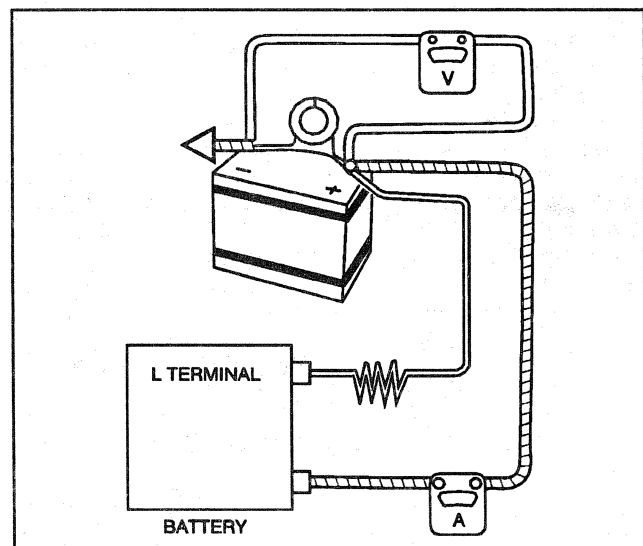

Figure 3—Connections for Generator Output Test
1. Install and connect the generator to the test stand as shown in Figure 3. The ground polarity of the generator and the battery must be the same. The carbon pile must be turned off to begin the test. Be sure that the generator BAT terminal is connected to the battery positive terminal (through the ammeter) and that the battery and generator are properly grounded.